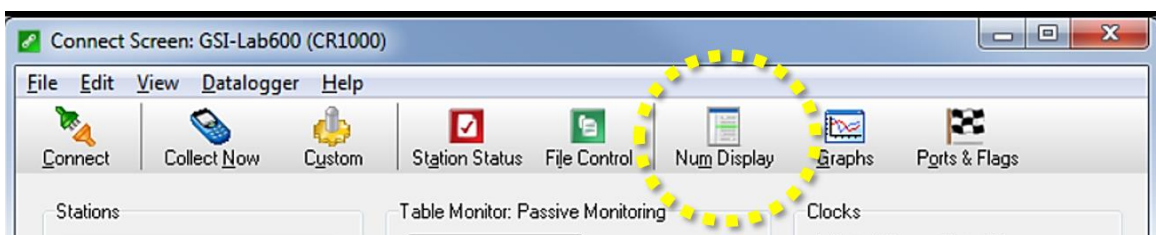

Figure 87. Click "Num Display" Icon
- f. Click **"Num Display"** (see Figure 87) to open the Data View.